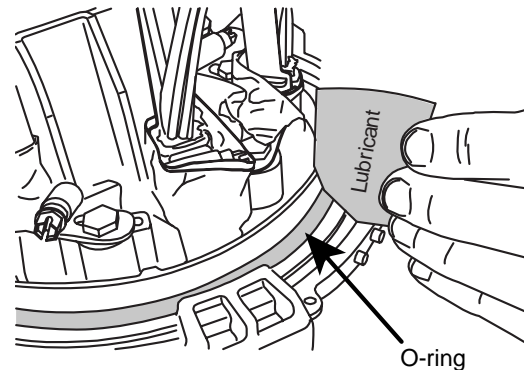

Figure 19
1. A small amount of lubricant should be applied to the endcap O-ring prior to each closing following re-entry (Figure 19).